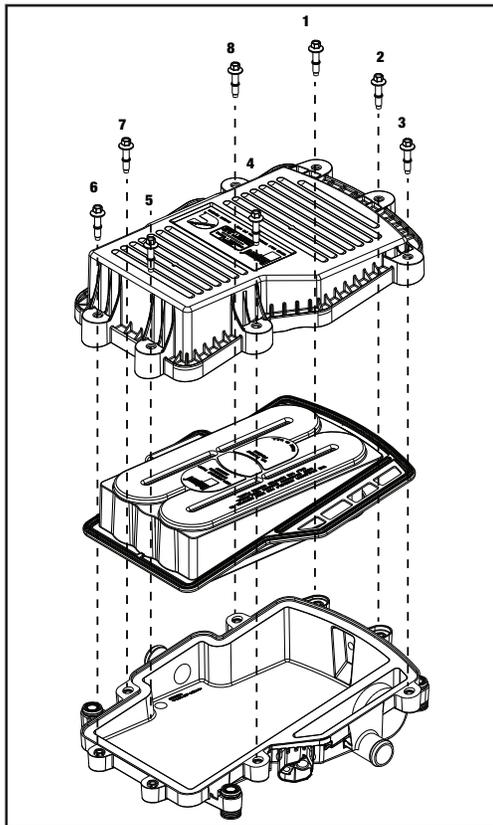

Figure 4: Exploded View with Bolt placements
3. Place the cover back on the base with the new filter set in place. Tighten all bolts back using the order shown in the figure 4 below.